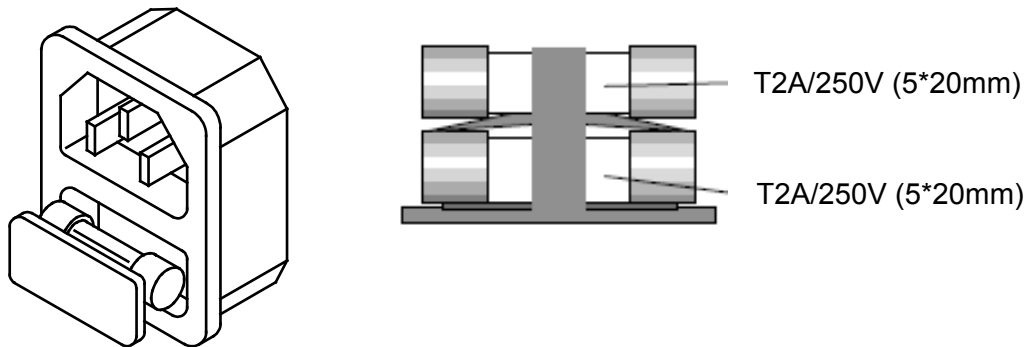

Fig 2-2 3270 Series fuse holder
2.3.2. The AC line fuse is located below the AC line receptacle see Fig 2-2. Use a small Screwdriver to extract the fuse holder, to change a new one. Change an appropriate Specifications fuse which indicated in Table 1-1.
- 2.10.4. Fig 2-2 shows the RS232 connector (Female) on the rear panel Connects 3270 Series Mainframe to RS232 port of computer in one By one Configuration .The RS232 BAUD-RATE can be set in the front Panel, it Will be lit the GPIB Address when press the "SYSTEM" button. Press it again, it will be lit the BAUD-RATE.